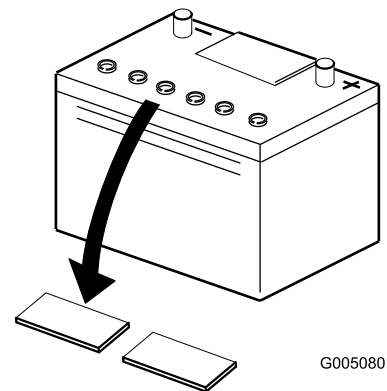

Figure 4
4. Clean the top of the battery and remove the vent caps (Figure 4).